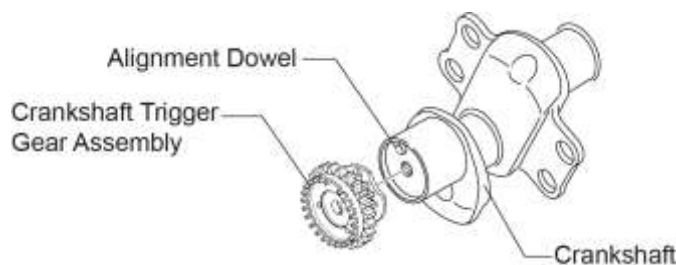

Figure 41
- (1) Start with a clean crankshaft that passed the “Crankshaft Inspection” in this chapter.
- (2) Make sure the mating surfaces of the crankshaft trigger gear assembly and crankshaft counter-bored end are clean and dry and that there is no debris. Refer to the procedures “Crankshaft Cleaning,” “Crankshaft Counterbore Cleaning,” and “Crankshaft Trigger Gear Assembly Cleaning” in Chapter 05-30 in this manual.
- (3) Install the crankshaft trigger gear assembly on the alignment dowel of the crankshaft counter-bored end as shown in Figure 41. Use a soft mallet as needed to seat the gear in place.